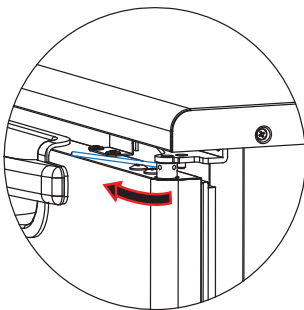

Fig 9-49
4. Turn the stick in the direction of the arrow until the next hole is visible. Avoid dropping or losing the pin. (Fig 9-49)